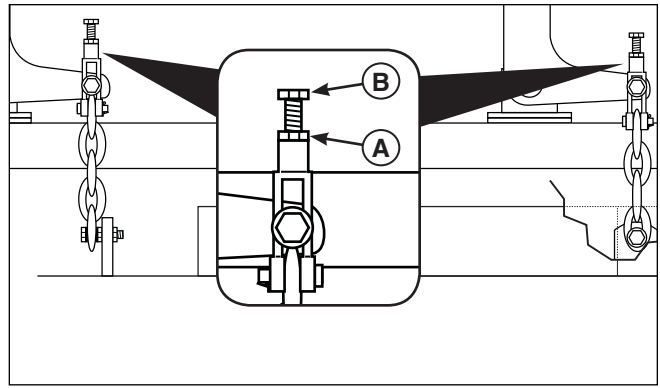

Figure 52. Fine Adjustment of the Deck Cutting Height
1. Loosen the jam nut (A, Figure 52) and turn the fine adjustment bolt (B) to adjust the deck height until the front measurement equals 4" (10,2 cm) and the back measurement equals 4-1/4" (11,43 cm).